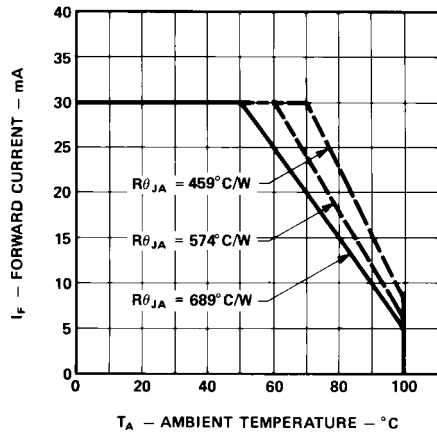

Figure 4. Maximum forward dc current vs. ambient temperature. Derating based on T_J Max. = 110 °C.
2. Derate linearly as shown in Figure 4.